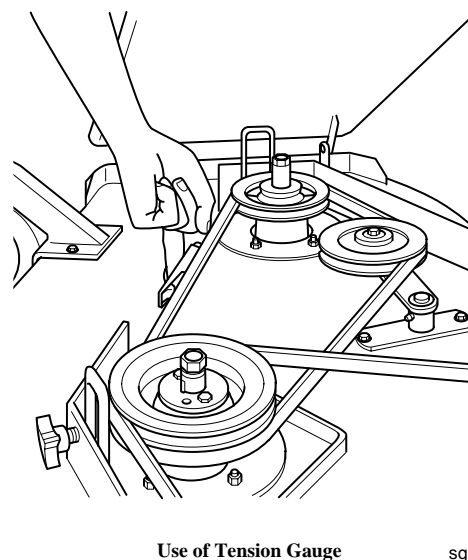

Figure 8. Blade Drive Belt Tension Check
3. To adjust blade drive belt: Using a belt tension gauge, check the belt tension so that the belt moves 1/2" with 10 pounds of pressure. (See Figure 8).